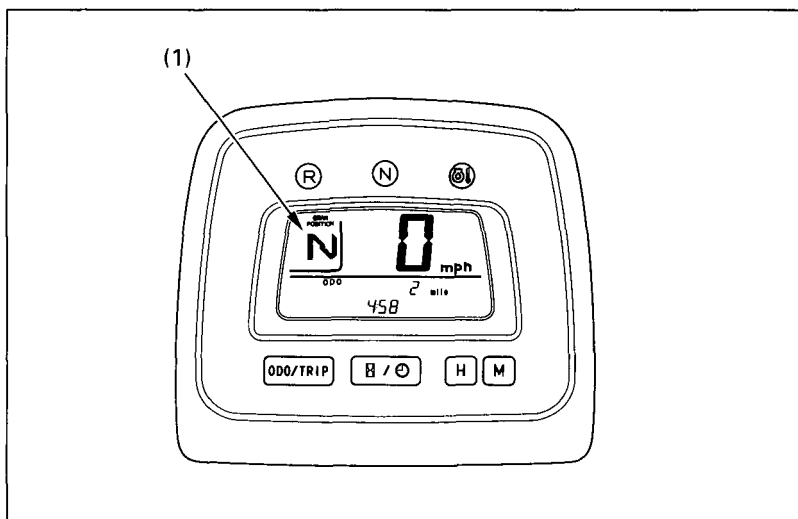

Fig. 2-16
The gear position indicator (1) (Fig. 2-16) shows the gear position when the ignition switch is in the ON (I) position and the engine is running.